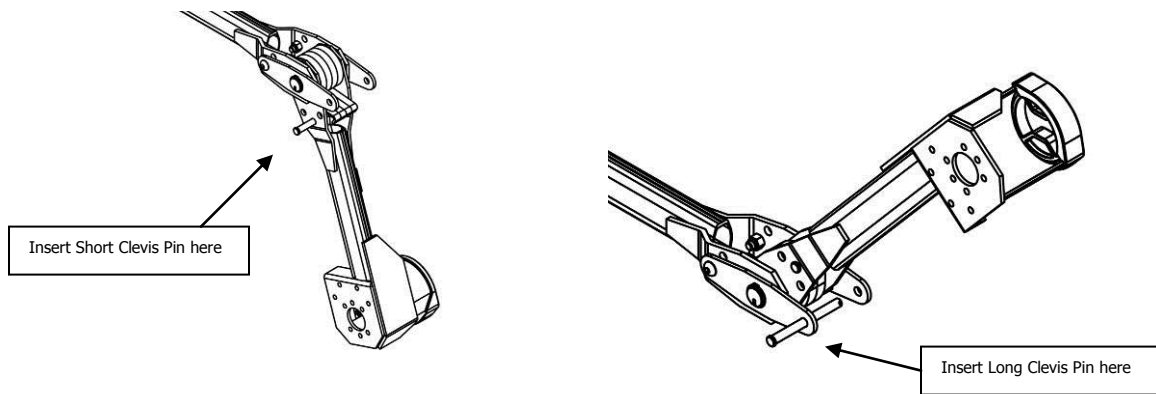

Figure 5
2. Locate the arm clevis pins and pre-load the knuckle arms by inserting the shorter clevis pin through the center hole in the base of the upper arm and then rotating the upper sections of the arms and placing the longer clevis pin as shown in fig. 5.
The Tarp Hardware consists of 3 components; Tarp Tube Clamps, Tarp Spool Hooks and Center Axle Supports. The clamps and the spool hooks can be mounted at this time. Refer to figure 5 below for the part description.